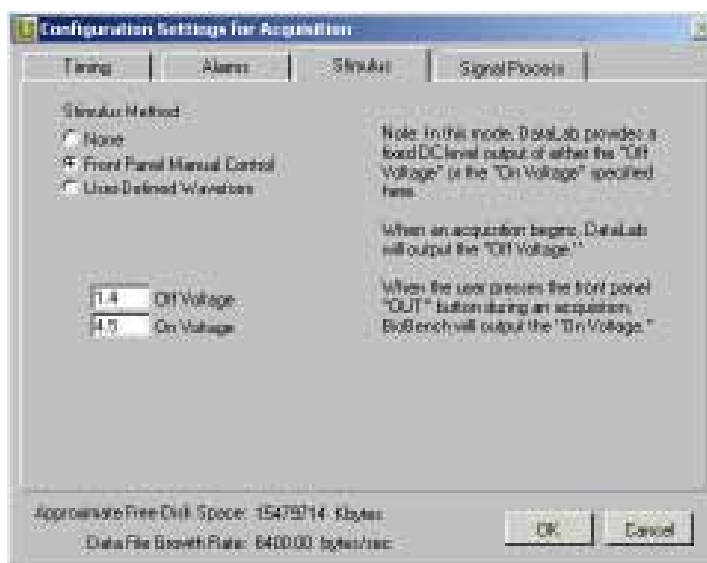

Figure 2-8. Stimulus Tab, Configuration Settings for Acquisition Dialog Box
- **Stimulus Method, Front Panel Manual Control**—DataLab 2000 Software provides a fixed DC level output of either the Off Voltage or the On Voltage you specify in the controls shown in Figure 2-8.